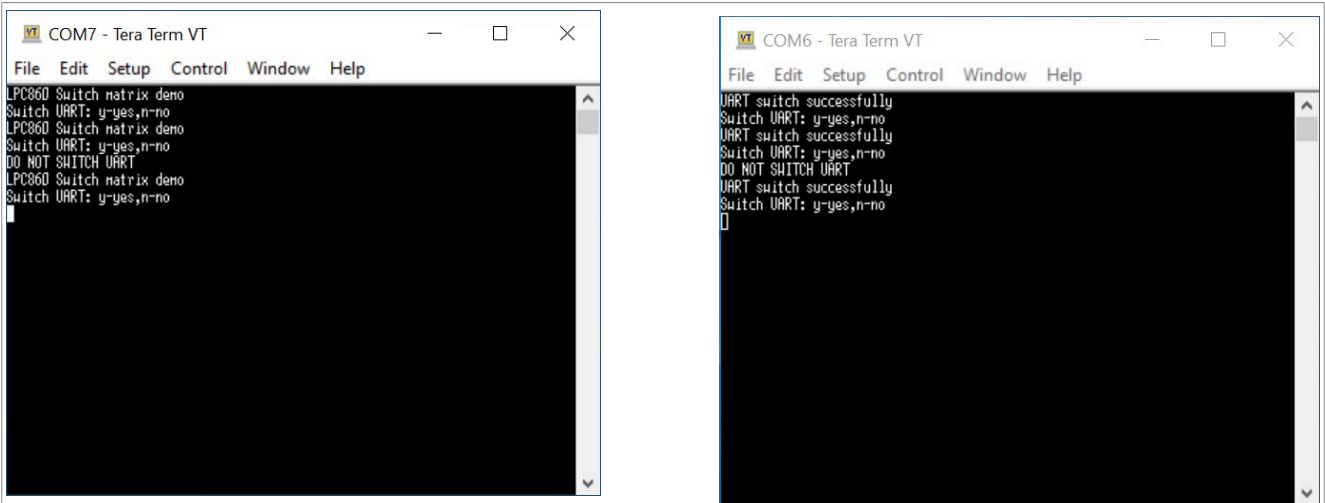

Figure 7. Tera Term communication
- When "n" is printed in Tera Term COM7/COM6, the UART port does not switch and prints “DO NOT SWITCH UART”, as shown in Figure 7.